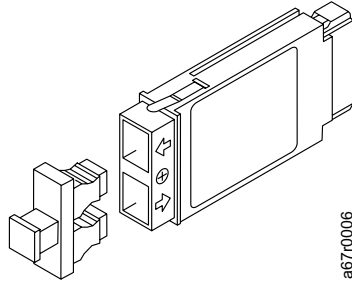

Figure 11. Gigabit interface converter (GBIC) module with dust protector
The gateway is the interface between the tape library and the SAN or Fibre Channel server. It provides Fibre Channel connectivity to the SCSI tape drives and SCSI medium changer in the library. Two Fibre Channel ports are available on the gateway. Each port is equipped with a gigabit interface converter (GBIC) module that lets you connect a fiber cable. The GBIC (part number 19P3259) can transmit data at up to 2 Gbits per second by using a short-wave, multimode, subscriber connector (SC). Figure 11 on page 26 shows the GBIC module.